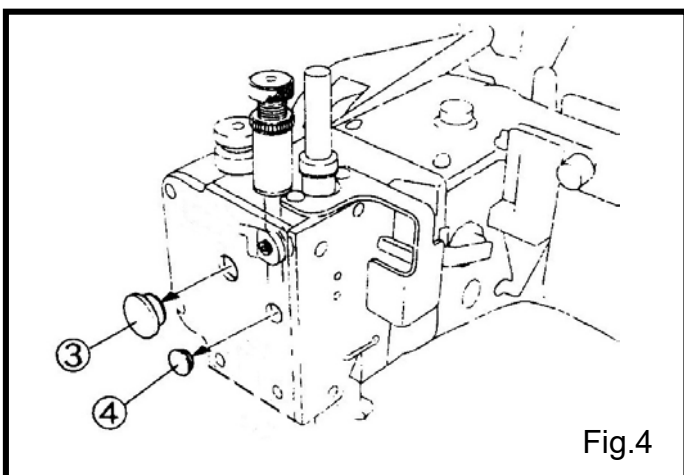

Fig.4
- (1) 移除油塞③④才可以檢查間隙。(Fig.4)
- (1) Remove the seal plugs③④ to check the clearance.(Fig. 4)